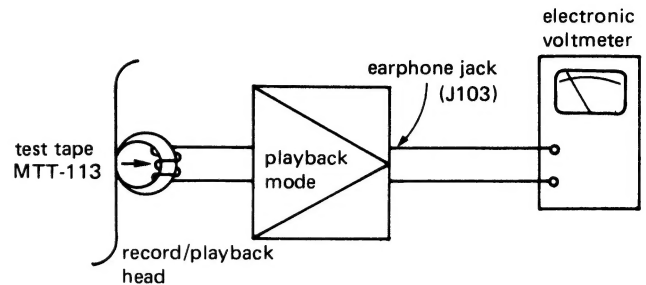

Figure 4-2
- 1) Make connection of instruments as shown in Figure 4-2.